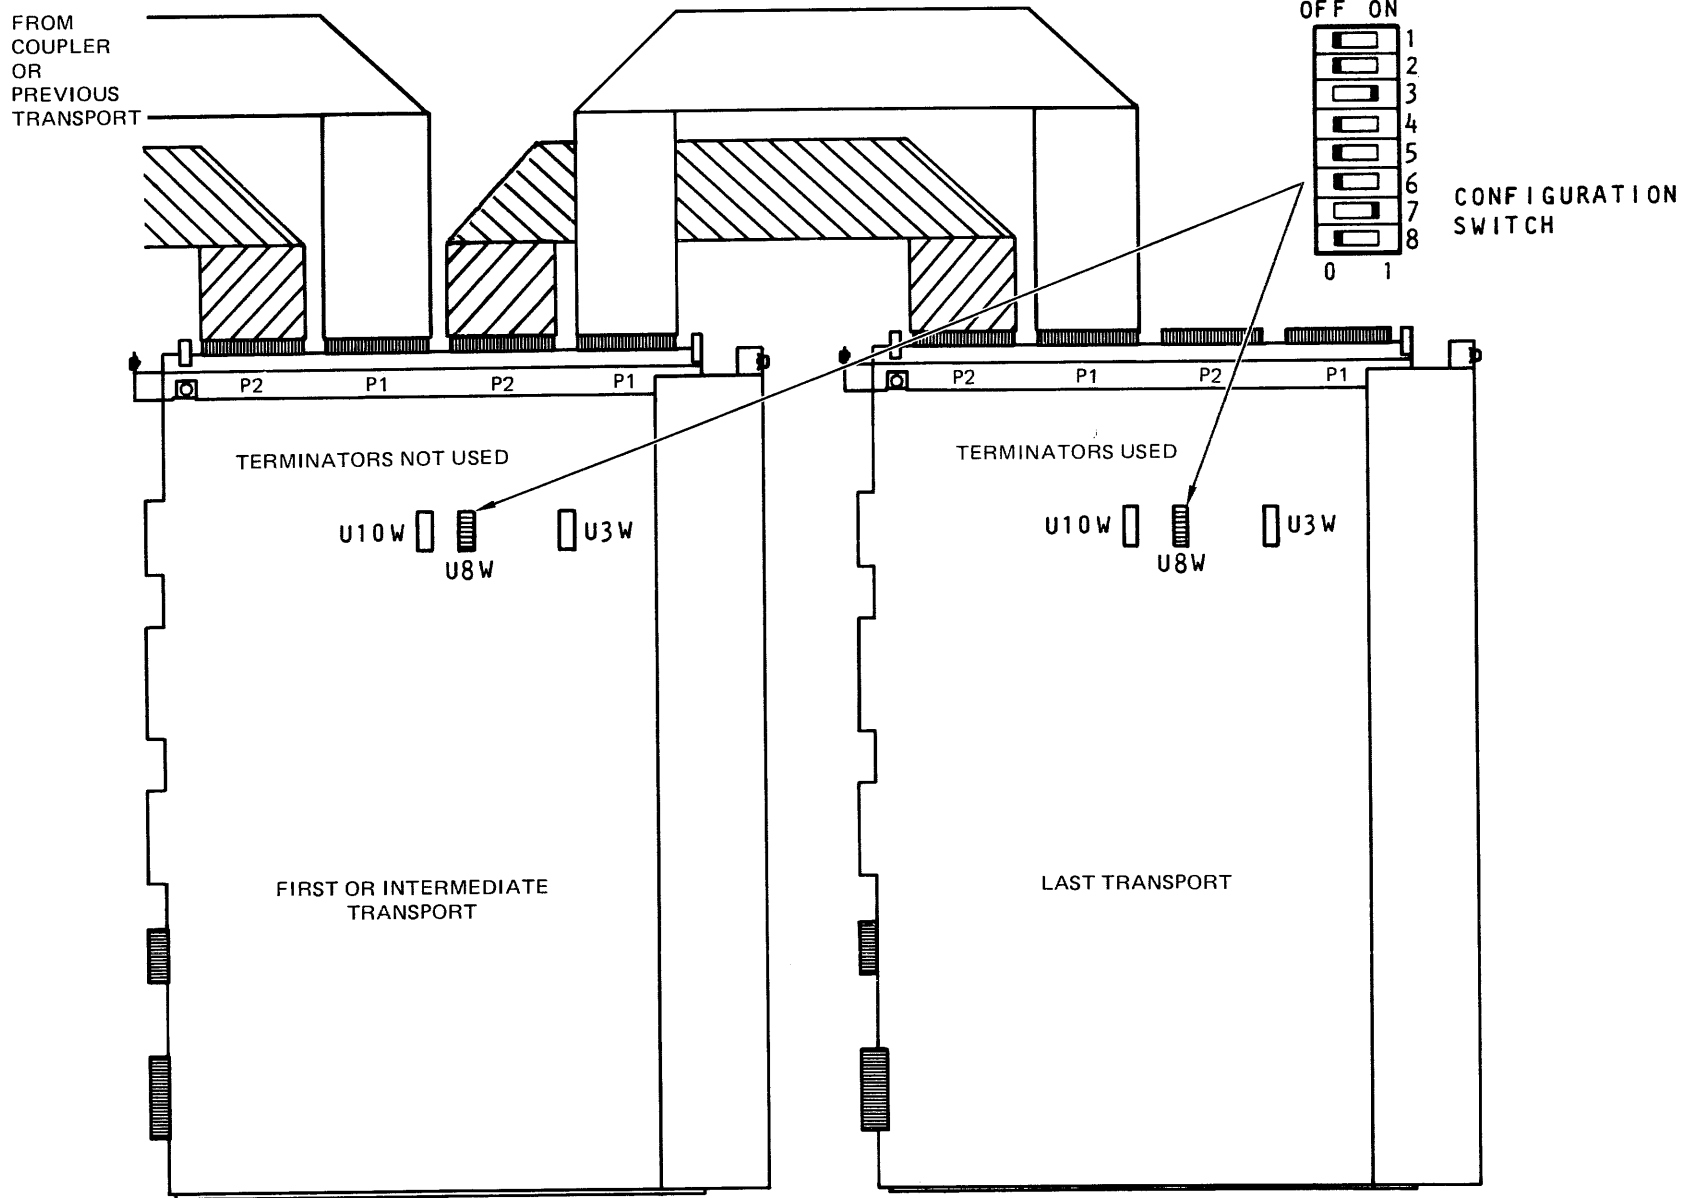

Figure I-4. Daisy Chain Cable Configuration
- b. Remove terminator resistor pack U3W and U10W (Figure I-4) from each transport except last unit.
- c. Install interconnection cables as shown in Figure I-4.